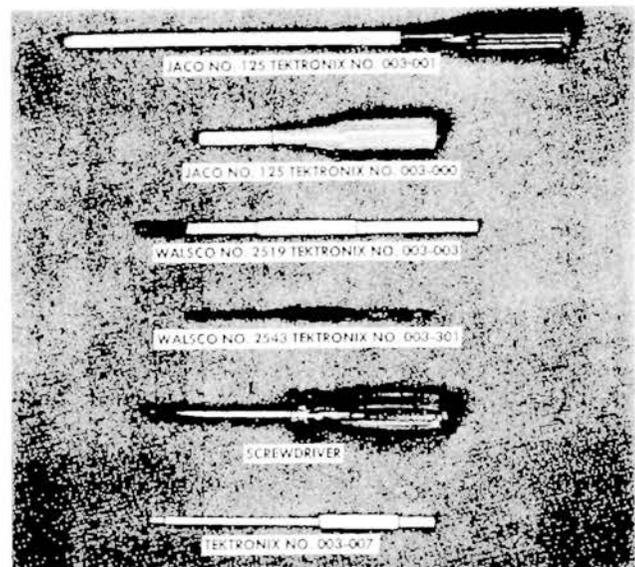

Fig. 6-1. Suggested Calibration Tools.
- (6) Tektronix Type K or Type L Plug-In Unit. (If delay-line adjustment is not required, other Tektronix Plug-In Units may be substituted.)
- (7) Low-Capacitance Recalibration Tools: Tektronix part numbers 003-000—003-007 and 003-301. (See Recalibration Tools in Accessories Section of Operator's Manual and Fig. 6-1).
- (8) Tektronix Type P6000 Probe.
- (9) Test Oscilloscope, Tektronix Type 316 or equivalent, providing triggered sweeps and a bandpass of at least dc to 10 mc.
- (10) Gain Set Adapter, Tektronix Type EP53A.